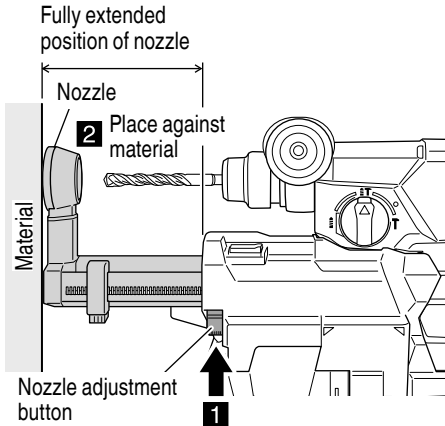

Fig. 5
- (1) Press the nozzle position adjustment button and ensure that the nozzle is in the fully extended position. (Fig. 5)
- (2) While holding the tool in a way so that the switch does not get pressed, place the nozzle against the material to be drilled. (Fig. 5)